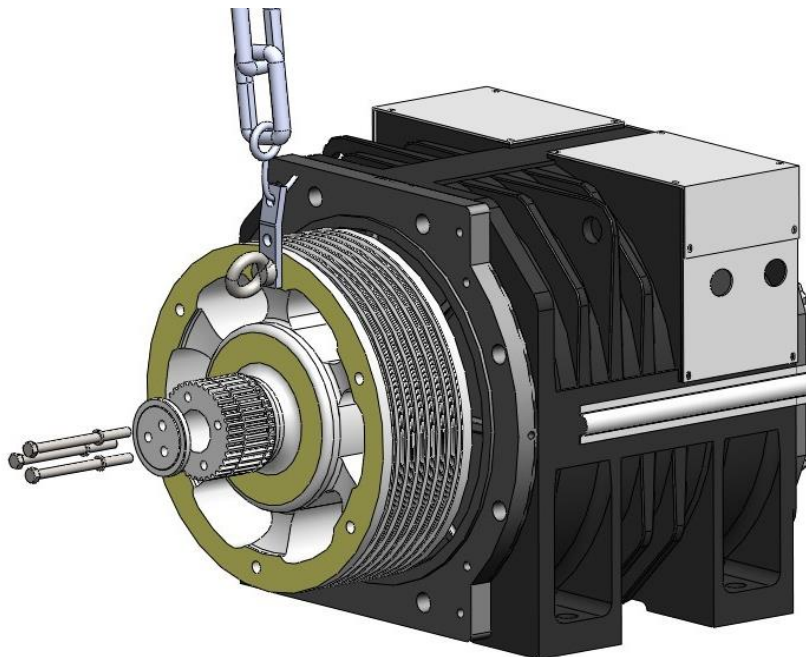

Figure 61: Sheave cover installation
3. Install the cover and tighten the bolts M12x150 with lock washer12 (3 pieces) use open end wrench (18mm) and then remove the hoisting equipment. See Figure 61.